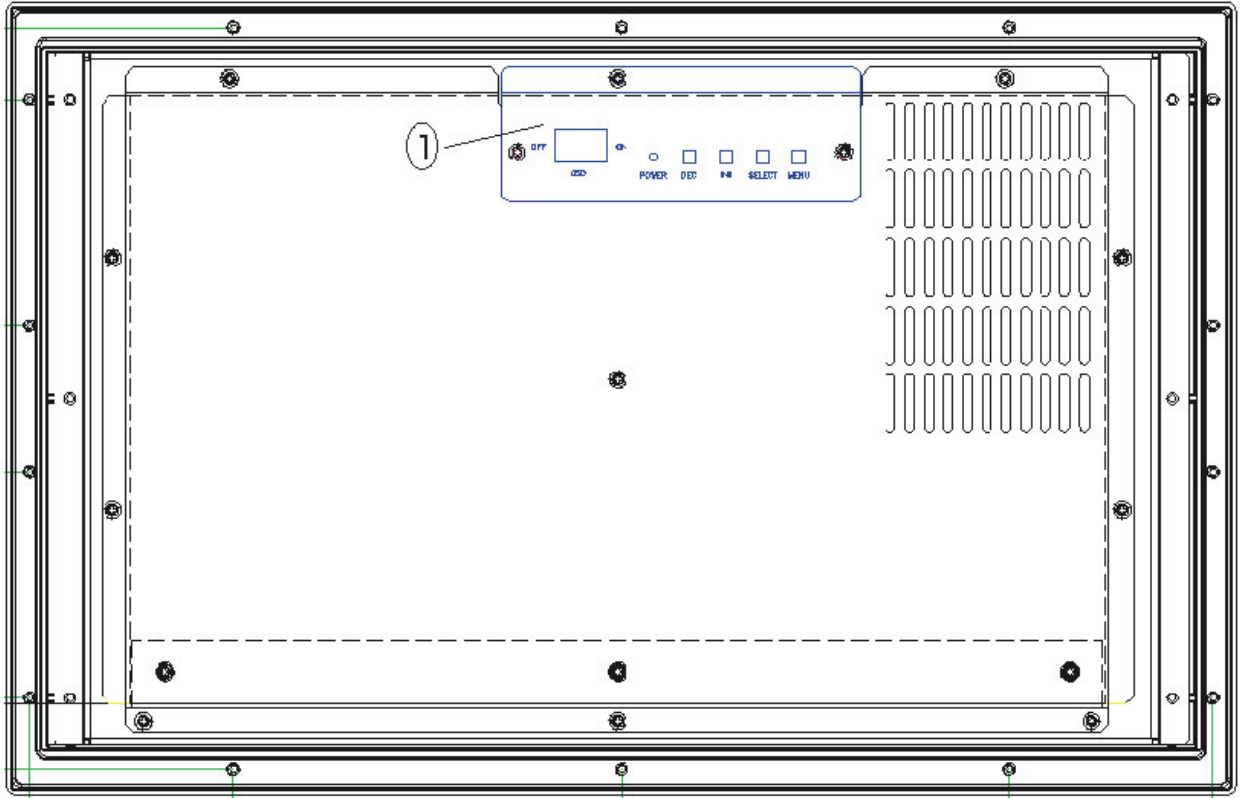
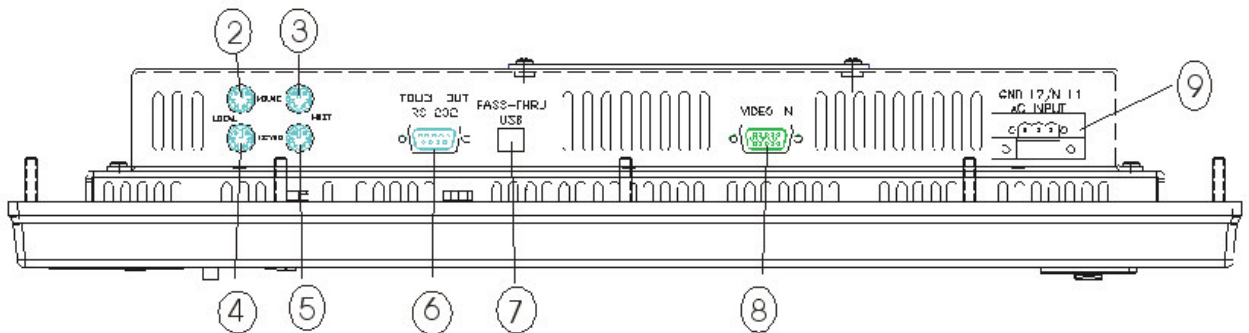

Figure 1-2. 5012KPM(T) & 5015KPM(T) Back Panel, straight view
Figure 1-3. 5012KPM(T) & 5015KPM(T) Back Panel, bottom view
Figure 1-2 shows a view of the KPM(T) monitor back panel. Figure 1-3 shows the bottom edge of the back panel, where the connectors are located.